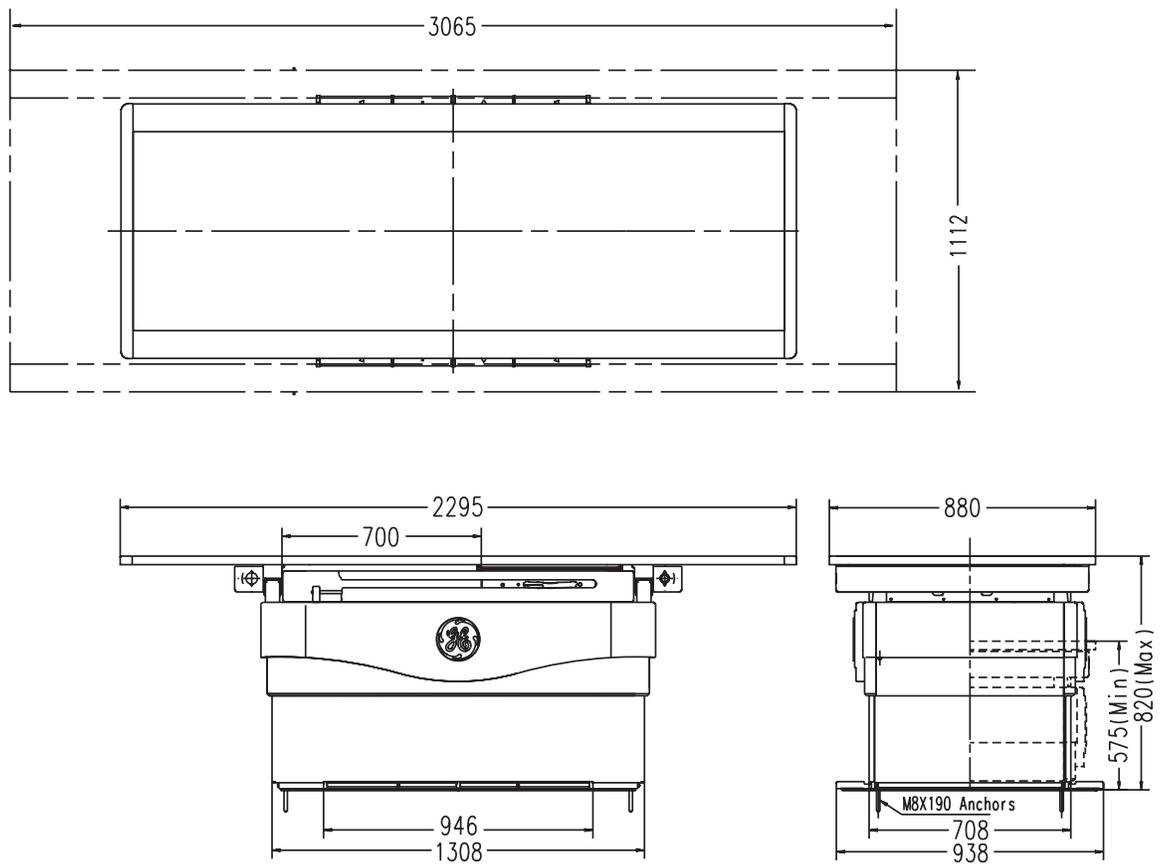

Figure 5-5 Revolution XR/d Table Views
- Table (TBL) - Figure 5-5 and Figure 5-6.